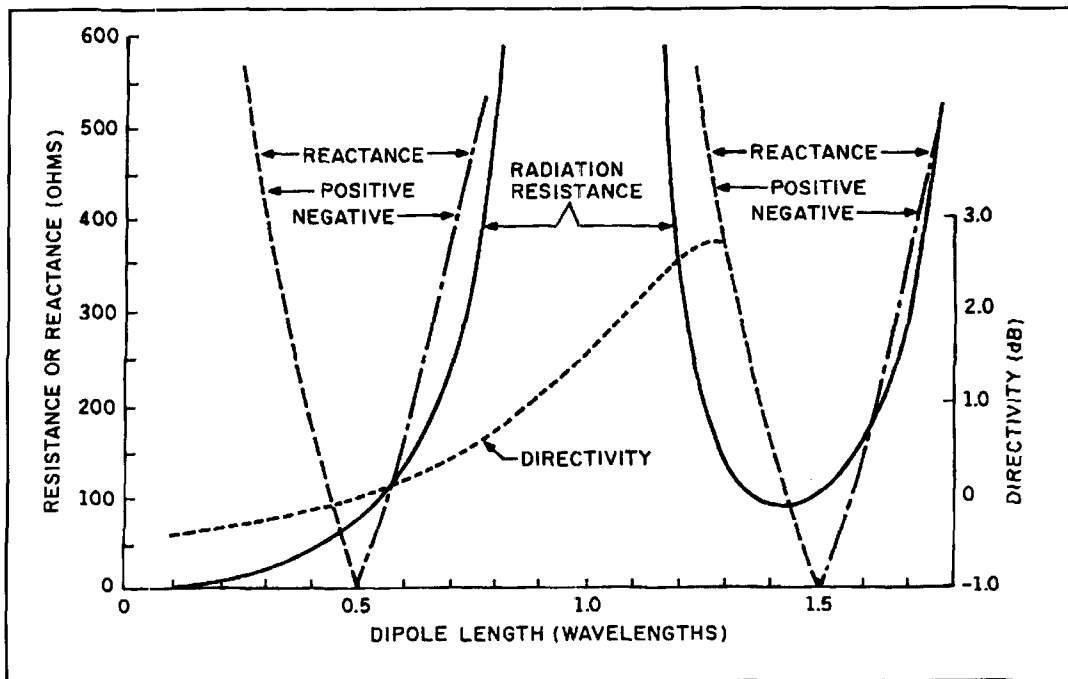

Figure 8. Plot of the properties of a center-fed dipole with resonating reactors at the feed point as a function of length, as calculated by ONETWORES.
**Figure 8** is a graph corresponding to **Figure 7C** based upon computer calculations. To improve graphical accuracy I have plotted both negative and positive reactances upward, but
**Figure 8** represents a special case that occurs when the loading reactors are placed at the center. You can place them at any other place you choose, but the values of the reactances you need are different, and the current distributions are different. Therefore all the other properties change. For example, you can place the loading reactors halfway between the center and the ends. **Figure 9** shows the corresponding graphs. The most dramatic difference from **Figure 8** is the performance near 1.0 wavelength, where the radiation resistance has gone from very high values to low ones. In fact, near 1.0 wavelength one can get a good impedance match to 50 ohms on both frequencies. The gain has dropped to a minimum at 1.0 wavelength. Again, I have stopped the gain curve when the principal maximum ceases to be at 90 degrees to the antenna.